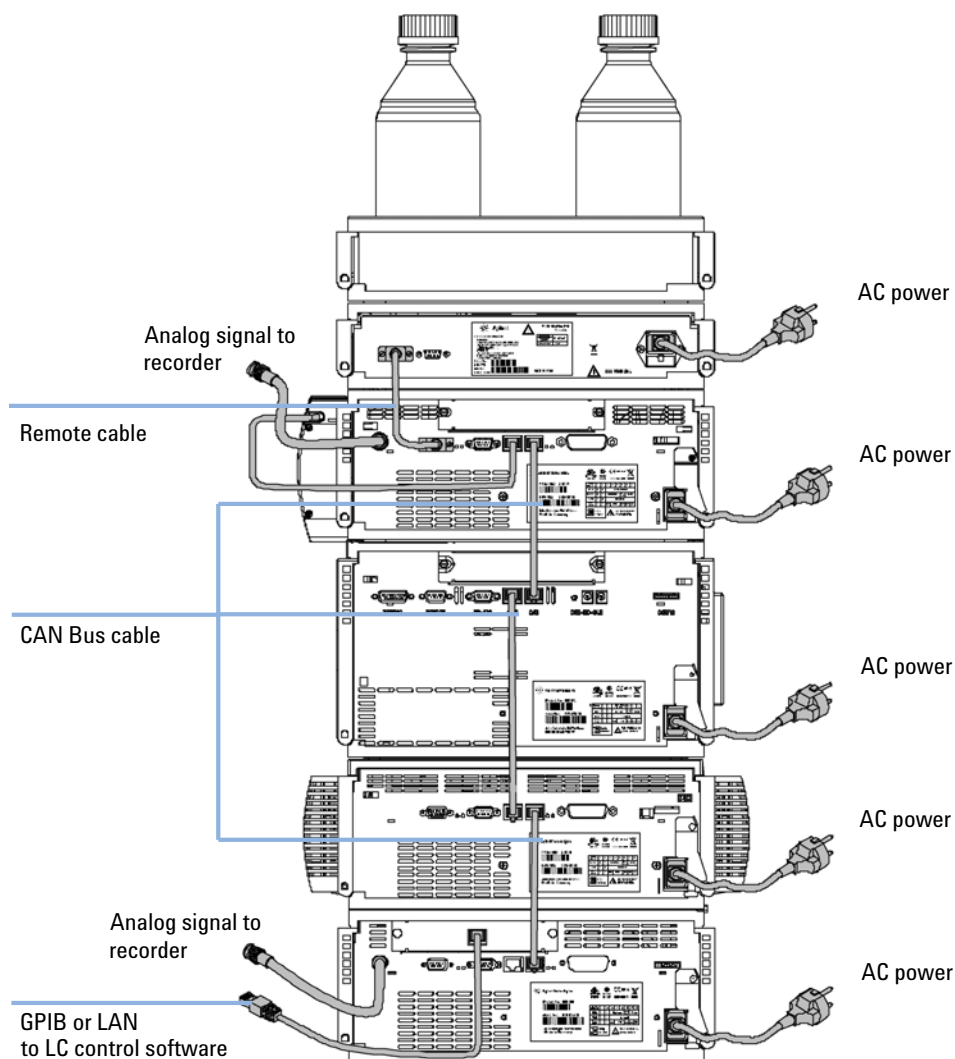

Figure 6 Recommended Stack Configuration (Rear View)
- 4 Connect the CAN cable to the CAN connector of the next module, see Figure 6 on page 36.
- 4 Connect the APG cable to the APG remote connector of the pump, see Figure 6 on page 36.